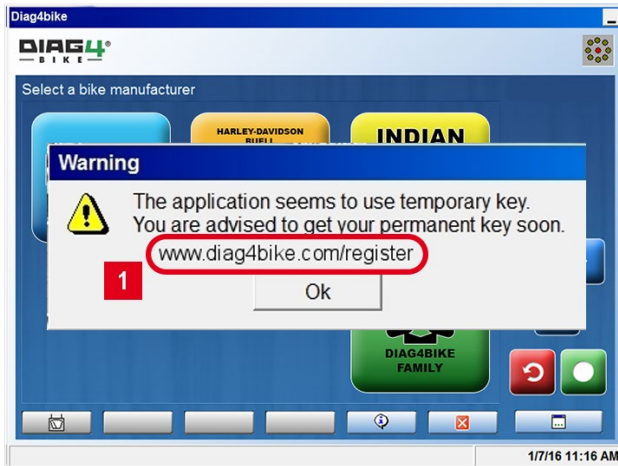
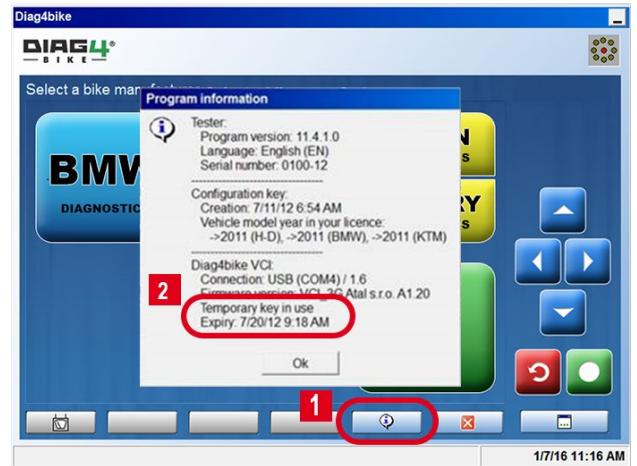

Fig. 6 – Notification of **DIAG4BIKE** that a "Temporary key" is used in the application
Fig. 7 – Indication of validity of the „Temporary key“ (illustrative picture)
The operator is notified about the presence of the „**Temporary key**“ by a notification (see Fig. 6) immediately after the start of **DIAG4BIKE**. Further, it is recommended to the user to request **timely** the „**Permanent key**“. At the same time, the address (see pos. 1, Fig. 6) to register the program (see chapter 4.3) and to obtain the „**Permanent key**“ is indicated. Information about the validity of the „**Temporary key**“ (see pos. 2, Fig. 7) can be obtained by clicking on the „Info icon“ (see pos. 1, Fig. 7).
If the registration is not carried out **timely** and if the validity of the „**Temporary key**“ expires, the program operator is notified about this condition by a corresponding text (e.g. pos. 2, Fig. 7). Moreover, the program will be blocked for further use for motorbike diagnostics until registration is carried out.
If the entering of the „**Permanent key**“ is carried out correctly, the notification about the „**Temporary key**“ (see pos. 2, Fig. 7) disappears.